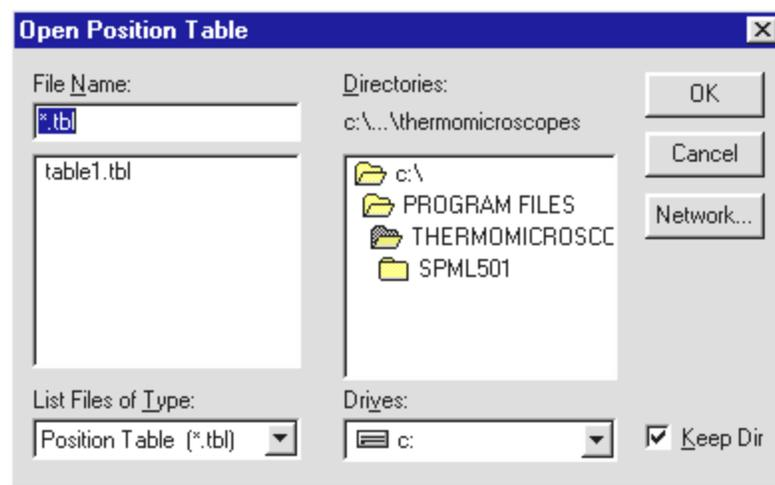

Figure 2-53. The Open Position Table dialog box.
1. Click on the Load button. The Open Position Table dialog box, shown in Figure 2-53, opens.